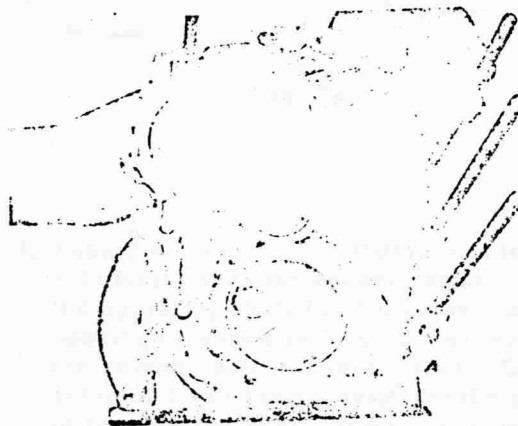
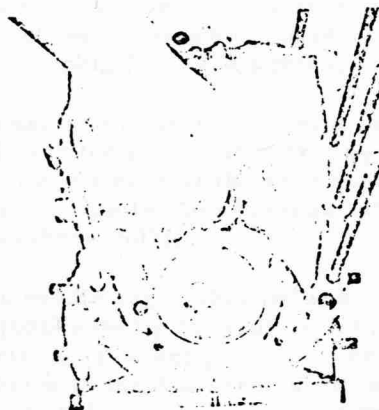

Fig. 17
Fig. 18
2. With the aid of tool . 3 . press the needle cage (232) into the bore on the clutch side of the main housing (Fig. 17) and secure it with the two cylindrical pins (117)(Fig. 18). Put the oil collector pan (119) with the pipe through the bore of the housing (Fig. 17)and secure it with two screws (117) (Fig. 18).
3. Press the reverse shaft (502) from the outside into the rear housing until the locating pin (503) abuts. With the rear cover (138) in position, the locating pin (503) of the reverse shaft must fit into the recess in the rear cover.